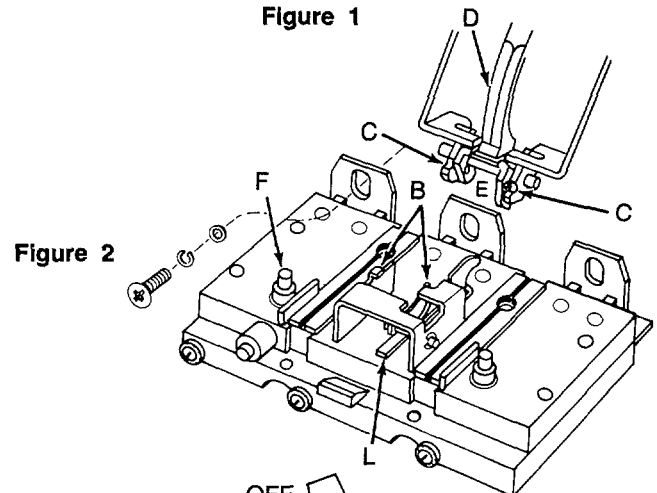

Figure 2
2. Trip the breaker by pushing Button A or Lever L, Figure 2.